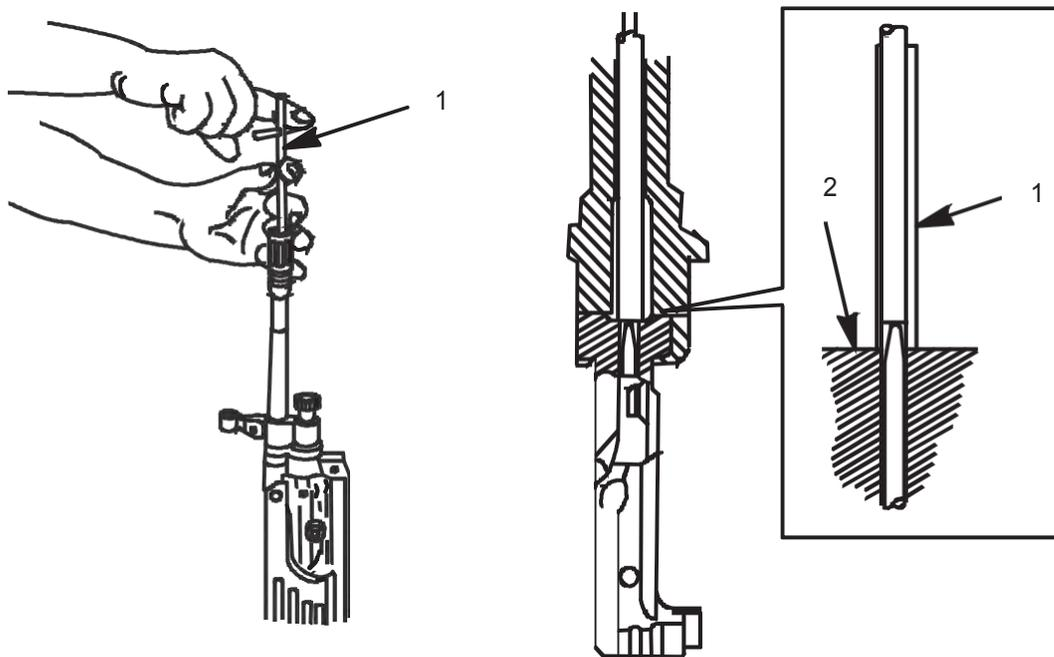

Figure 4. Insertion of Firing Pin Protrusion Gage.
2. Insert Firing Pin Protrusion Gage (Figure 4, Item 1) in barrel until the bottom end of Firing Pin Protrusion Gage (Figure 4, Item 1) seats firmly against the Bolt Face (Figure 4, Item 2).